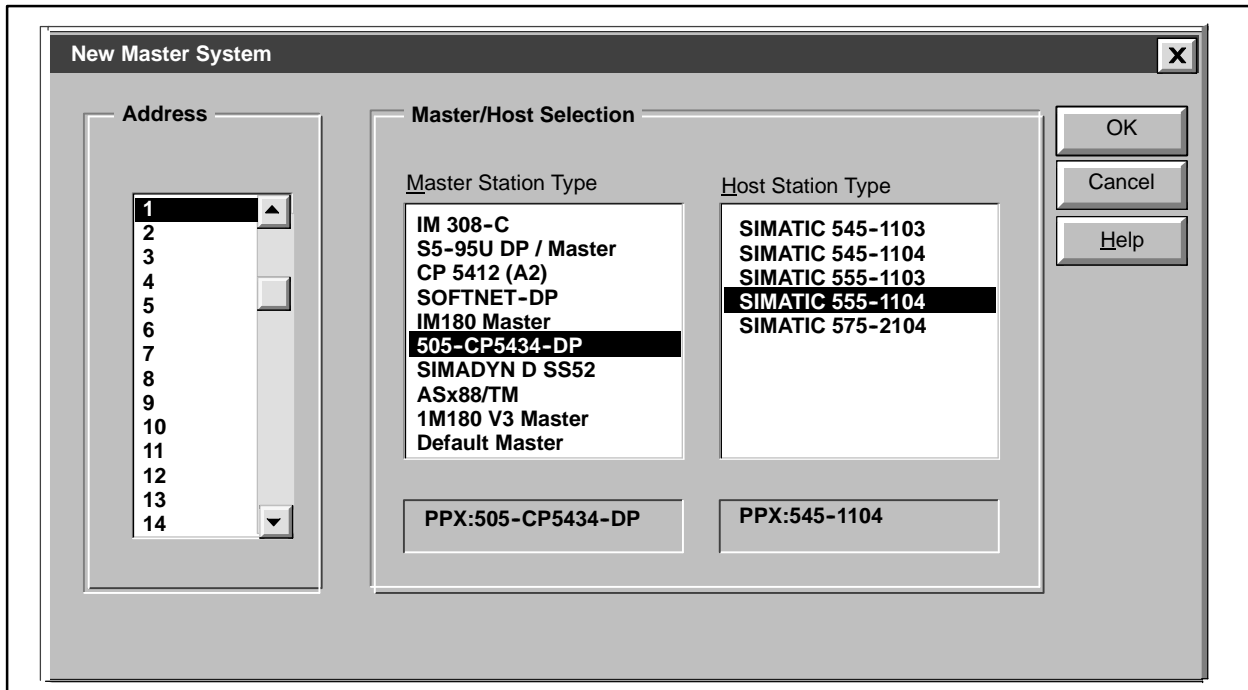

Figure 9-2 New Master System Dialog Box
2. Select **File->New**. The new Master System dialog box appears (Figure 9-2).